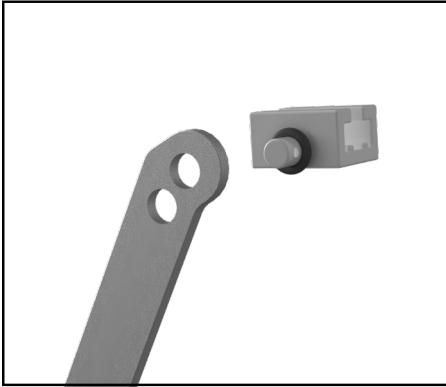

Figure 17
- b. (On the roof). Slide the supplied O-ring onto the shaft of the supplied I-Beam Slider. **(Figure 17)**